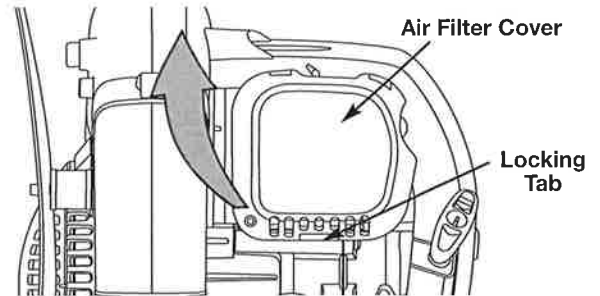

Fig. 23
1. Open the air filter cover. Push the locking tab on the under side of the cover inward. Then pull the air filter cover out and up. (Fig. 23).
7. Reinstall the air filter cover. Position the slots on the top of the air filter cover onto the tabs at the top of the back plate (Figs. 23 & 24).